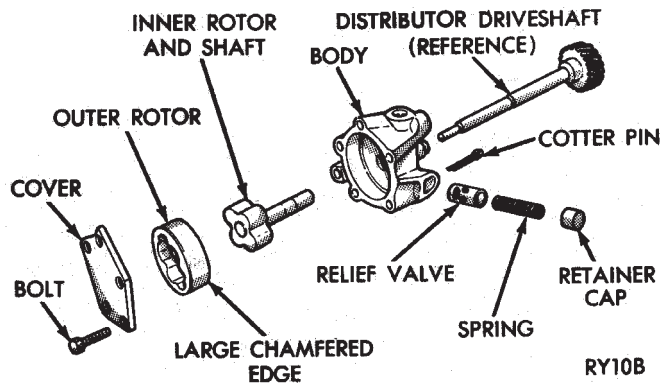

Fig. 59 Oil Pump
- (2) Remove oil pump cover (Fig. 59).
- (3) Remove pump outer rotor and inner rotor with shaft (Fig. 59).
- (4) Wash all parts in a suitable solvent and inspect carefully for damage or wear.